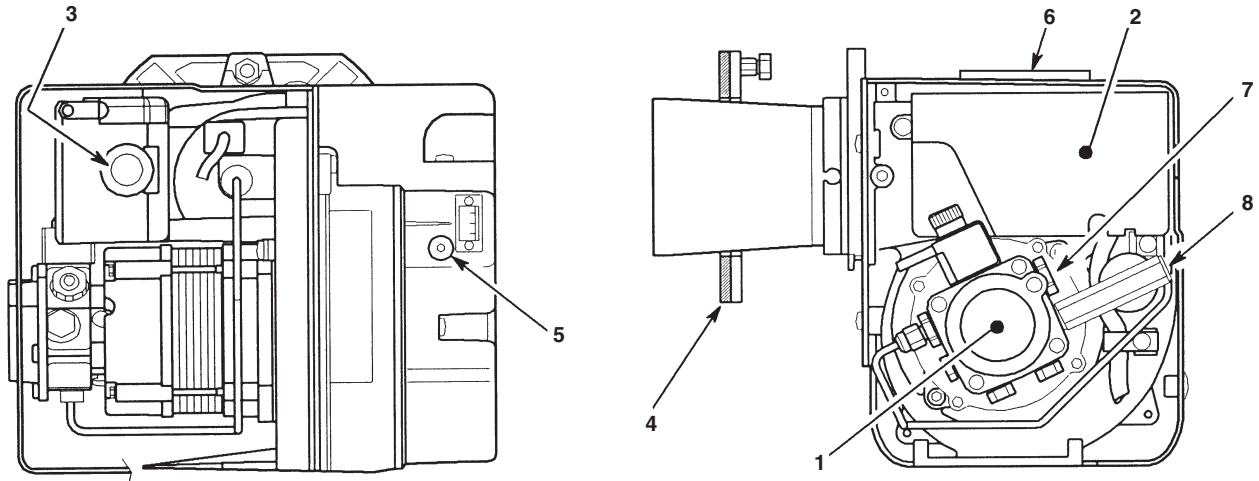

Fig. 24 - RDB burner components
- 4 Connect a combined vent manifold and pressure gauge to the pressure gauge connection port on the oil pump. See Fig. 24. Open the vent screw on your vent manifold to vent the supply while the pump is running.
- 8 With the burner alight, check the fuel pressure. Refer to the Technical Information, Section 4.3, 4.4 or 4.6. Adjust the pressure if necessary - see Fig. 24.
- 13 After allowing the burner to run for 20 minutes - Check the smoke number, if satisfactory check the CO₂ level. Set the CO₂ to the value given in Section 4.3, 4.4 or 4.6. for the boiler and fuel used. Adjust the burner air regulator, see Fig. 24, turning the screw anti-clockwise closes the damper and increases CO₂ level, turning the screw clockwise opens the damper and reduces CO₂ level.